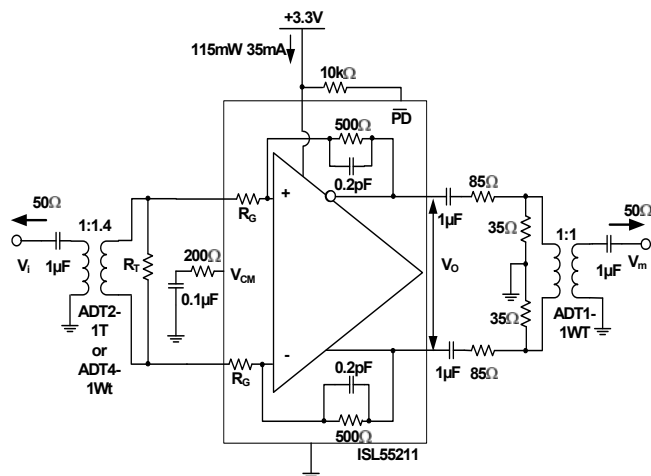
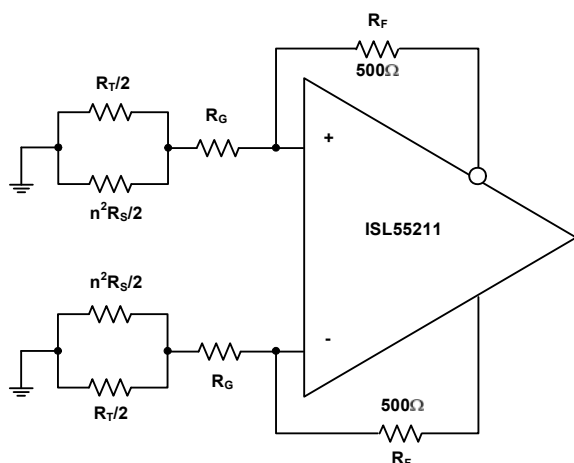
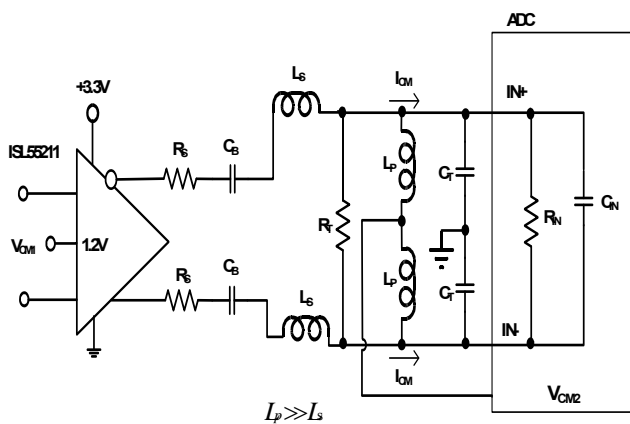

FIGURE 29. TEST CIRCUIT 1
FIGURE 35. NOISE GAIN MODEL FOR THE TRANSFORMER COUPLED INPUT CIRCUIT OF FIGURE 29
FIGURE 37. AC-COUPLED, HIGHER FREQUENCY RLC INTERSTAGE FILTER DESIGN
Test Circuit 1 of Figure 29 forms a starting point for many of the characterization curves for the ISL55211. Since most lab sources and measurement devices are single-ended, this circuit converts to differential at the input through a wideband transformer and would also be a typical application circuit coming from a single-ended source. Assuming the source is a 50Ω impedance, the internal R_G resistors and external R_T are set to provide both the input termination and the gain. Since the inverting summing nodes act as virtual ground points for AC signal analysis, the total termination impedance across the input transformer secondary will be $(2 \cdot R_G) \parallel R_T$. Setting this equal to $n^2 \cdot R_S$ will give a matched input impedance inside the bandwidth of the transformer (where "n" is the turns ratio). The amplifier gain is fixed by the selected input R_G element and the internal 500Ω feedback resistors. While the ISL55211 is internally a Voltage Feedback Design (VFA) to give the lowest possible noise, internal compensation caps hold the bandwidth over gain setting approximately constant at 1.4GHz. For wider small signal bandwidth at lower gains, consider the ISL55210, which provides >2.2GHz at a gain of 12dB.
Working with a transformer coupled input as shown in Figure 29, or with two DC blocking caps from a differential source, means the output common mode voltage set by either the default internal V_{CM} setting, or a voltage applied to the V_{CM} control pin, will also appear as the input common mode voltage. This provides a very easy way to control the ISL55211 I/O common mode operating voltages for an AC-coupled signal path. The internal common mode loop holds the output pins to V_{CM} and, since there is no DC path for an I_{CM} current back towards the input in Figure 29, that V_{CM} setting will also appear as the input common mode voltage. It is useful, for this reason, to leave any input transformer secondary centertap unconnected. The internally set V_{CM} voltage is referenced from the negative supply pin. With a single 3.3V supply, it is very close to 1.2V but will change with total supply voltage across the device as shown in Figure 27.
Most of the characterization curves starting with Figure 29 then get different gains by changing the connections to the two pairs of input R_G connections, as shown on the pin configuration drawing on page 2. Two input turns ratios are intended for Test Circuit 1; either a 1:1.4 turns ratio (ohms ratio of 2) or a 1:2 turns ratio (ohm ratio of 4). The specific transformers shown in Figure 29 are representative of broadband RF transformers but alternate devices and manufacturers of these turns ratio devices are certainly applicable. The output side of this test circuit presents a differential 200Ω load while converting the differential to single-ended through a resistive attenuator and a 1:1 transformer. This inserts approximately a 17dB insertion loss that is removed to report the characteristic curves. For load tests below the 200Ω shown in Figure 29, a simple added shunt resistor is placed across the output pins. For loads > 200Ω, the series and shunt load R's are adjusted to show that total load (including the 50Ω measurement load reflected through the 1:1 output measurement port transformer) and provide an apparent 50Ω differential source to that transformer. This output side transformer is for measurement purposes only and is not necessary for final applications circuits. There are output interface designs that do benefit from a transformer as part of the signal path as shown in Figure 1. In that case, the 1:1.4 output side transformer becomes part of a filter design and recovers the filter insertion loss from the amplifier output pins to the ADC inputs.
The characterization circuit of Figure 29 shows one possible input stage interface that offers several advantages. Where AC coupling is adequate, the circuit of Figure 29 simplifies the input common mode voltage control. If the source coming into this stage is single-ended, the input transformer provides a zero power conversion to differential. The two gain resistors (R_G in Figure 29) provide both a portion of the input termination impedance and the gain element for the amplifier. For 50Ω systems, these R_G resistors are too high with the turns ratios shown in Figure 29 to provide the full match and an external R_T resistor is required. This R_T element goes away at the highest gain setting using a 1:2 input turns ratio transformer.
This input interface also simplifies the input common mode control. The V_{CM} pin controls the output common mode voltage. In most DC-coupled FDA applications, the input common mode voltage is determined by both this output common mode and the source signal. In a configuration like Figure 29, there is no path for a common mode current to flow from output to input, so the input common mode voltage equals the output. A similar effect could be achieved with just two blocking caps on the two R_G resistors. A DC-coupled, single to differential, configuration will also have a common mode input that is moving with the input signal. Converting to just a differential signal at the amplifier, as in Figure 29, removes any input signal related artifacts from the input common mode making the ISL55211 behave as a differential only VFA amplifier. There is only a very small differential error signal at the inputs set by the loop gain, as in a
of 1.3V for instance, then $1.3V + 0.9V + 1.5V = 3.7V$ will give an unclipped 3.6V_{P,P} output capability. The $V_{P,P}$ reported in Figure 27 is an asymmetrically clipped maximum swing. Going 10% above this 3.7V target to 4.1V will be within the recommended operating range and give some tolerancing headroom that would also suggest the V_{CM} voltage be moved up to approximately 1.5V, which coincides with the default output V_{CM} from Figure 27. Operating at +4.1V single supply in a Figure 29 type configuration will give the maximum linear differential output swing of 3.6V_{P,P}.
The differential inputs internal to the ISL55211 also have operating range limits relative to the supply voltages. Operating in an AC-coupled circuit like Figure 29 will produce an input common mode voltage equal to the outputs. The inputs can operate with full linearity with this V_{CM} voltage down to 1.1V above the -Vs supply. On the default 1.2V output V_{CM} on +3.3V supplies this gives a 100mV guardband on the input V_{CM} voltages. Overriding the default V_{CM} by applying a control voltage to the V_{CM} pin should be done with care in going towards the negative supply due to this limit. On the + side, the maximum input V_{CM} above the -Vs supply is 2V so there is more room to move the output V_{CM} up than down from the default value.
Adding an input transformer can improve the input referred noise by adding a noiseless voltage gain. Starting from Test Circuit 1 of Figure 29, and assuming the source shows a matched broadband source R_S that will be matched by the input referred parallel combination of $2 \cdot R_G \parallel R_T$, a noise gain analysis circuit can be developed as shown in Figure 35.
Stepping through the 3 gain settings with two input transformers will allow the noise gain to be calculated for the circuit of Figure 35, which is all that is needed in Equation 1 to arrive at an output differential noise (since R_F is fixed at 500Ω). Doing this gives Table 4.
2. AC-coupled, higher frequency range interstage filter design. This design replaces the R_T resistors in Figure 35 with large valued inductors and implements the filter just using shunt resistors at the end of the RLC filter. In this case, the ADC V_{CM} can be tied to the centerpoint of the bias path inductors (very much like a Bias-T) to provide the common mode voltage and current to the ADC inputs. These bias inductors do limit the low frequency end of the operation where, with $1\mu\text{H}$ values, operation from 10MHz to 200MHz is supported using the approach of Figure 37.